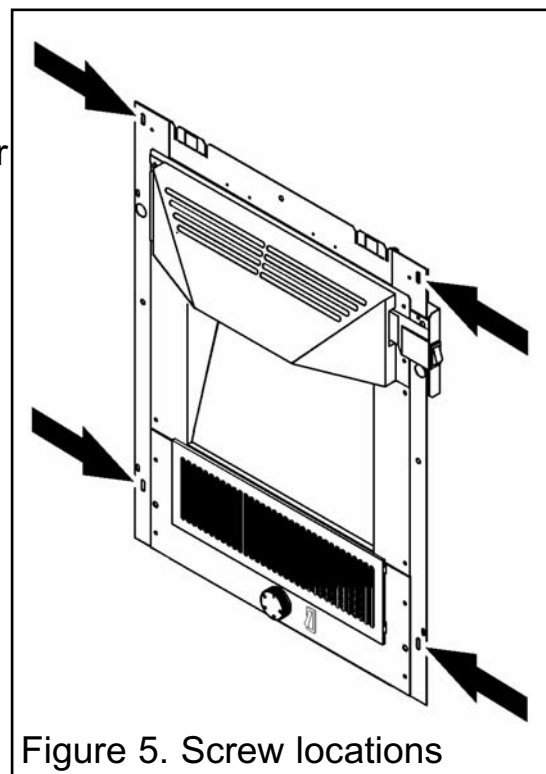

Figure 5. Screw locations
2. There are two slotted holes in the top of the heater and two in the lower side flanges (See figure 5). We recommend the use of all four holes. Mark through the holes so that their position is clear when the heater is removed.